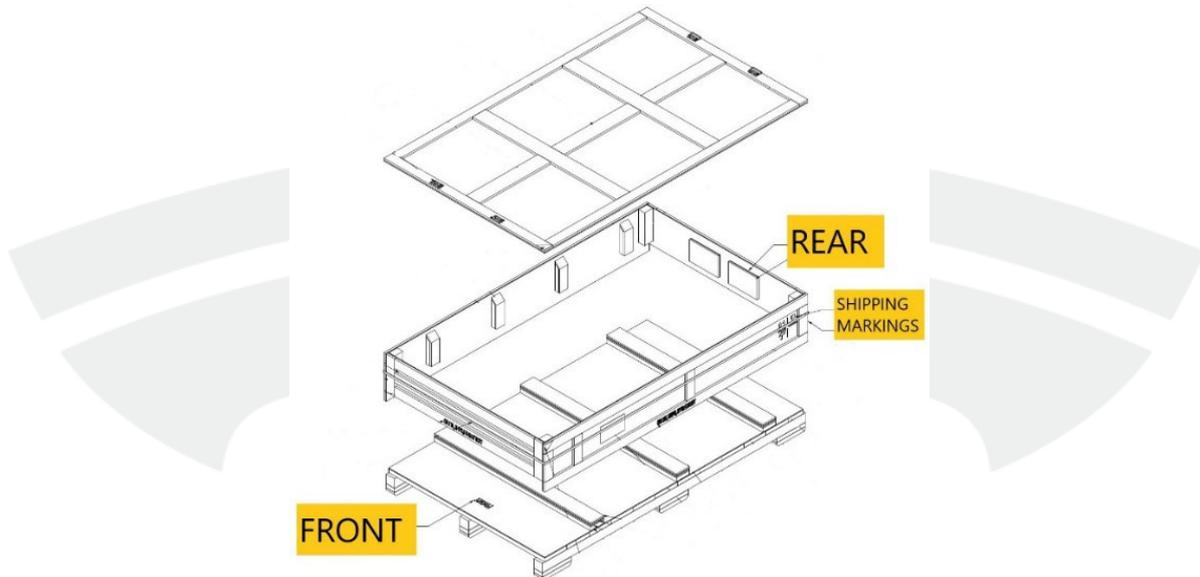

Figure 1
1. Locate the shipping markings on the shipping crate to determine the rear of the HV battery (Figure 1).